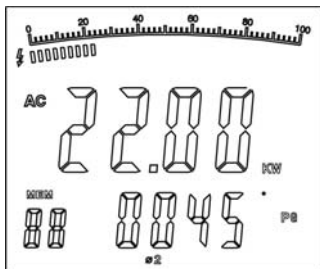

Figure 9
2. After record the current power measurement value of the first phase, then press **SEL** to choose $\text{#}2$, The double display shows the value of active power kW and PG of the second phase 2. as figure 9